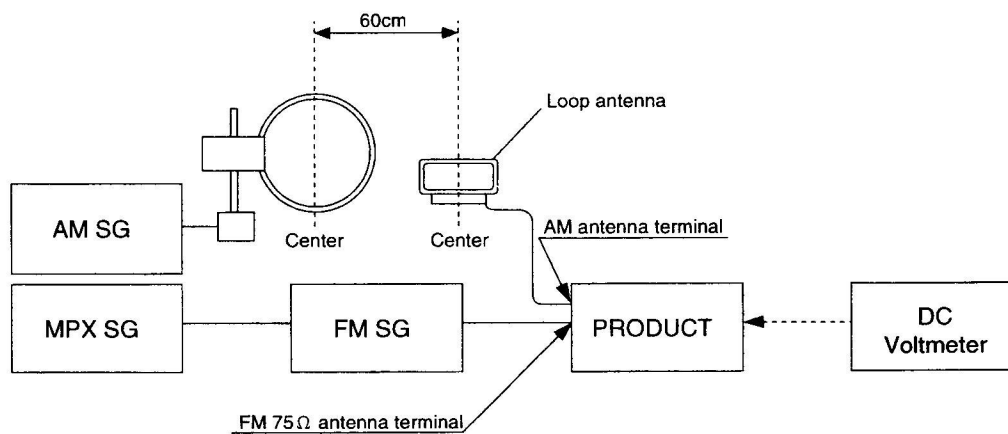

Fig. 1-1 AM and FM Adjustz Wiring Diagram
- Connect the wiring as shown in Fig. 1-1.